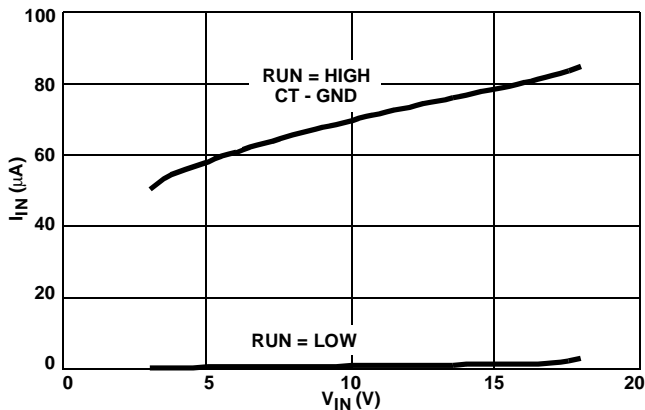

FIGURE 12. BIAS POWER CHARACTERISTICS
The converter efficiency and power dissipation at light load is mainly a function of the bias supplied to the HIP5020. Figure 12 shows the input current as a function of the input voltage for the two states of the RUN signal. I_{IN} is summation of both the current into the VIN and VINP pins. The curve for I_{IN} with the RUN signal High does not include the gate drive power.
2. Add the product of the voltage and current from the RUN = High curve in Figure 12.
4. Add the product of the voltage and current from the RUN = Low curve in Figure 12.